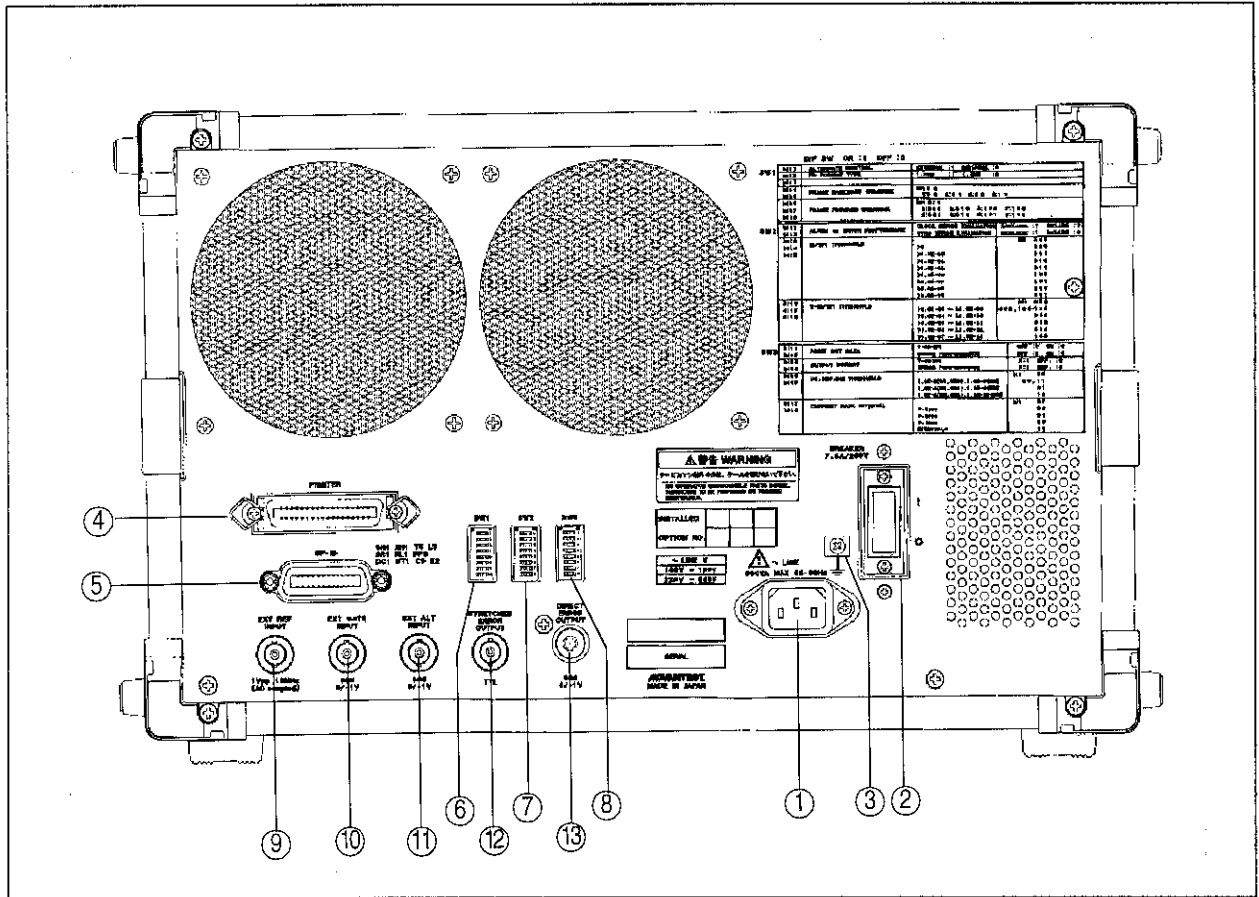

Figure 2-7 Rear Panel
With the POWER switch (① in Figure 2-2) on the front panel turned OFF (by pressing the left side of the switch) and the breaker on the rear panel (② in Figure 2-7) turned ON (by pressing the "." mark side), connect the LINE inlet (① in Figure 2-7) on the rear panel to a receptacle using the attached power cable.
If pressing this switch does not turn on the power, check whether or not the breaker on the rear panel (② in Figure 2-7) is set to OFF.
② TRIGGER OUTPUT select key () and 1/32 CLK and PATTERN lamps